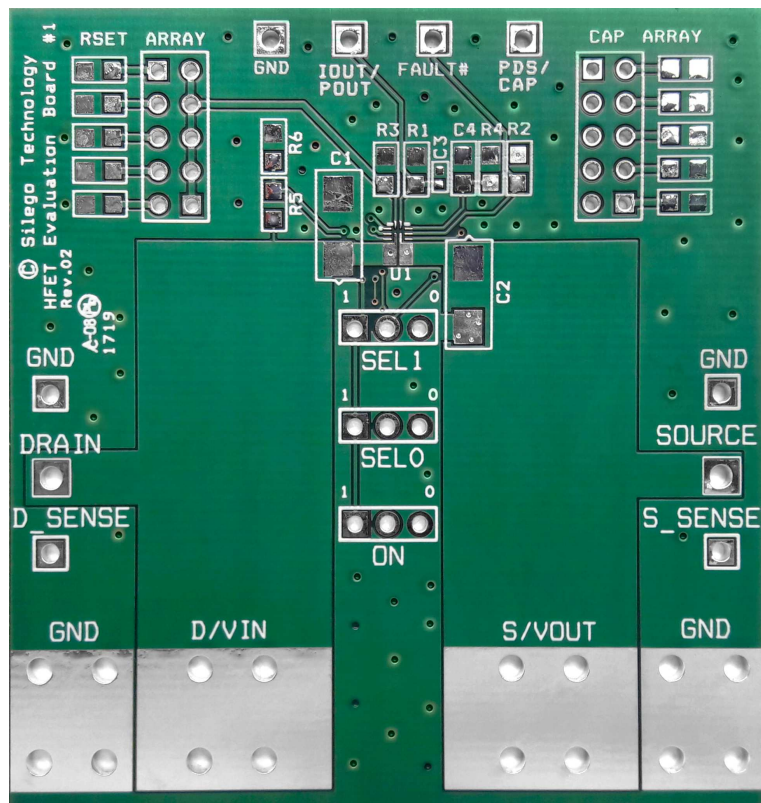

Figure 14. SLG59H1008V Evaluation Board
1. Since the  $V_{IN}$  and  $V_{OUT}$  pins dissipate most of the heat generated during high-load current operation, it is highly recommended to make power traces as short, direct, and wide as possible. A good practice is to make power traces with absolute minimum widths of 15 mils (0.381 mm) per Ampere. A representative layout, shown in Figure 14, illustrates proper techniques for heat to transfer as efficiently as possible out of the device;
A High Voltage GreenFET Evaluation Board for SLG59H1008V is designed according to the statements above and is illustrated on Figure 14. Please note that evaluation board has D\_Sense and S\_Sense pads. They cannot carry high currents and dedicated only for  $R_{DS(ON)}$  evaluation.